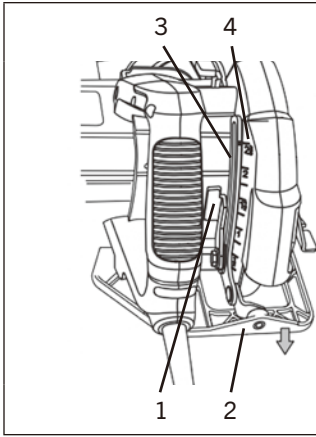

FIG. 4
1. Lift the depth adjustment locking lever (1) upward (Fig. 4).
2. Pull the sole plate (2) downward until the correct amount of the blade is protruding below the sole plate.
3. Lift the cutting depth locking lever upward to allow the blade to rise above the bottom of the sole plate so the blade will NOT contact the workpiece (Fig. 4). Do NOT lock the cutting depth locking lever.